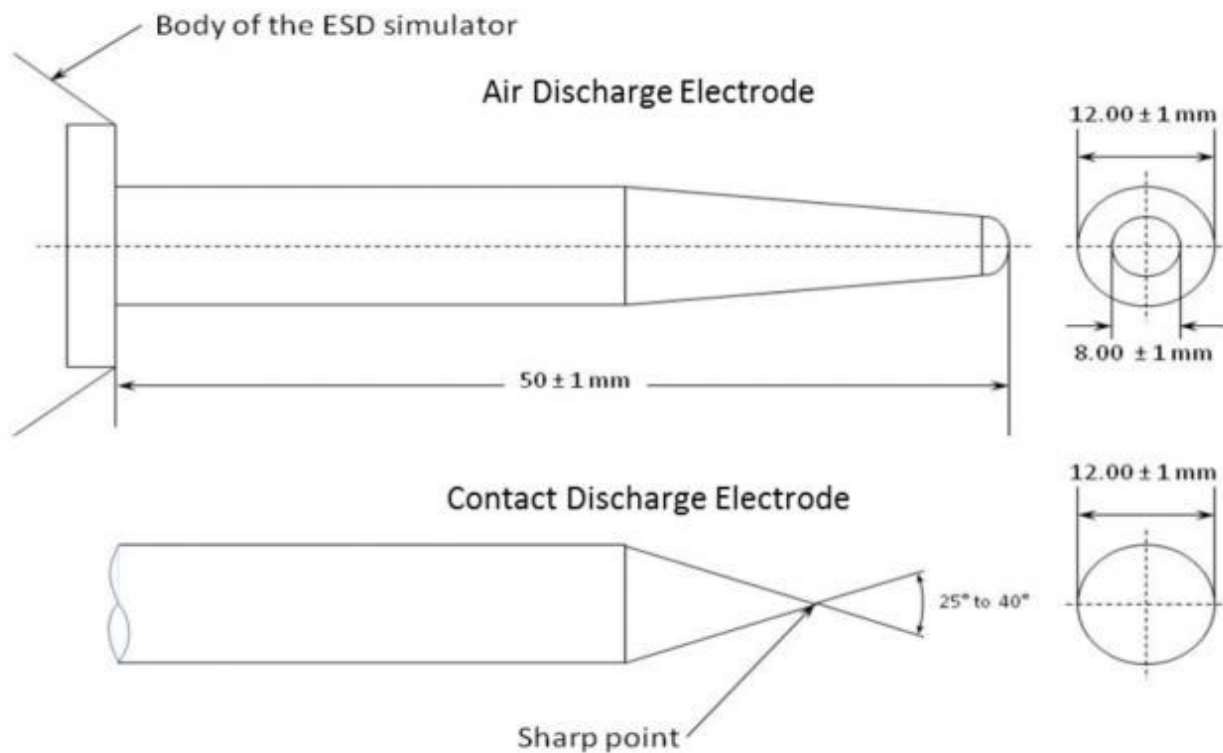

FIGURE CS118-2. Discharge electrodes of the ESD generator.
- Contact discharge tip Figure CS118-2
- Air discharge tip Figure CS118-2